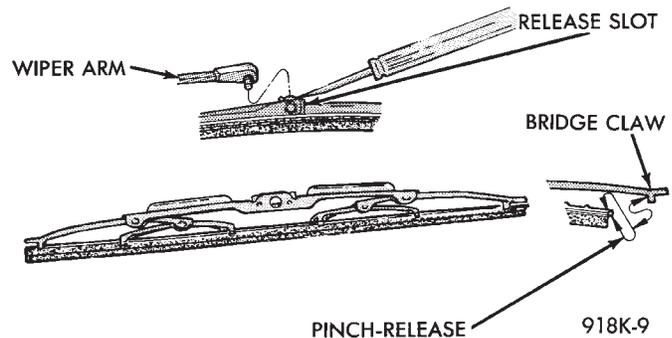
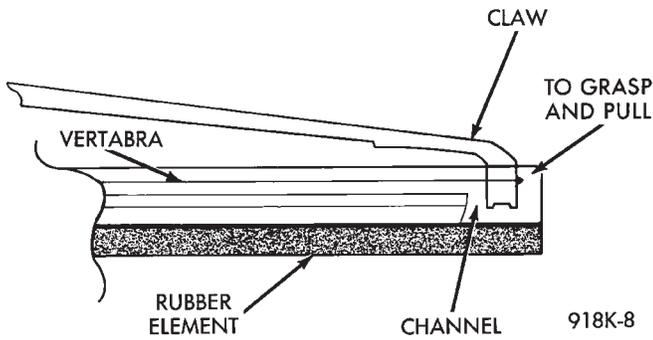

Fig. 1 Wiper Blade and Element
Fig. 3 Wiper Element
(1) Turn wiper switch ON, position blades to a convenient place by turning the ignition switch ON and OFF.
(2) Lift wiper arm to raise blade off glass.
(3) Remove blade assembly from arm by inserting a small screwdriver blade into release slot of wiper blade and push downward (Fig. 1 and 2), or push release button (2).
(4) To remove wiping element from blade assembly:
- Apply pressure backwards to open up the blade assembly (Fig. 3)